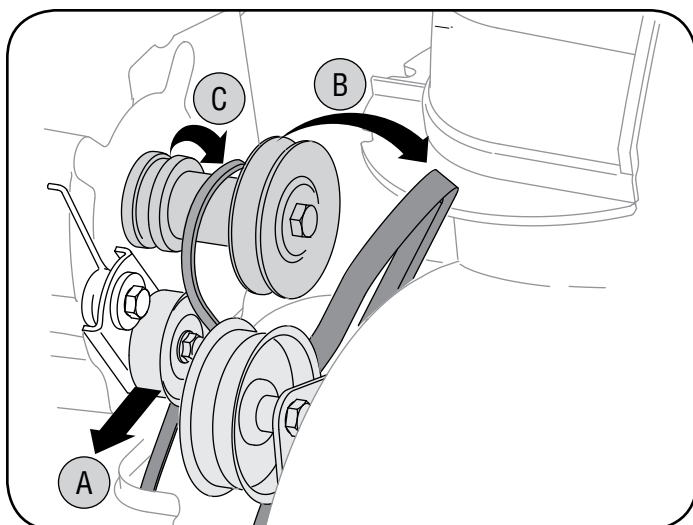

Figure 18
1. a. Grasp the idler pulley and pivot it toward the right. See Figure 18. Insert a screw driver through aligning holes in both the idler bracket and the engine. This will release tension on drive belt.
c. Lift the drive belt off engine pulley. See Figure 18.